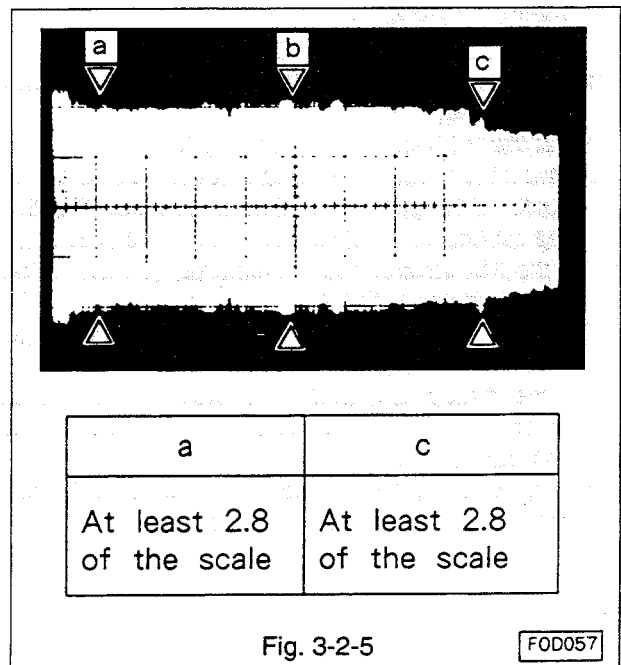

Fig. 3-2-5
**(Refer to Fig. 3-2-5.)**
- D. Adjust tracking so that the amplitude at the middle (around the point 'b') of the FM waveform is about 80% ('4' on the scale of the scope) of the maximum amplitude. Make certain that the amplitudes at points 'a' and 'c' satisfy the requirements given in Fig. 3-2-5.